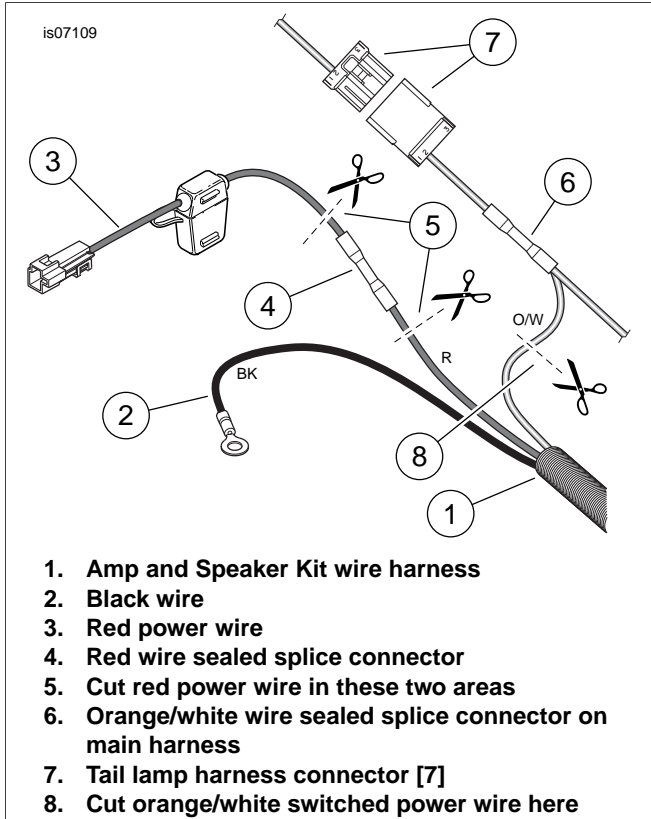

Figure 1. Amp and Speaker Kit Wire Connections
1. See Figure 1. Locate the Amp and Speaker Kit wire harness (1) under the seat. Remove the nut from the black wire (2) ring terminal at the vehicle ground stud.
2. Unplug the red power wire (3) from the B+ (battery positive) connector [160].
4. See Figure 1. Cut the red power wire in two places at location (5), **on each side** of the sealed splice connector (4). Discard the sealed splice connector. Save the end section (with the power connector and in-line fuse holder) for later assembly.
5. Cut the orange/white switched power wire at location (8), **between** the wire harness (1) conduit and the sealed splice connector (6) on the vehicle main harness near tail lamp harness connector [7B] (7).